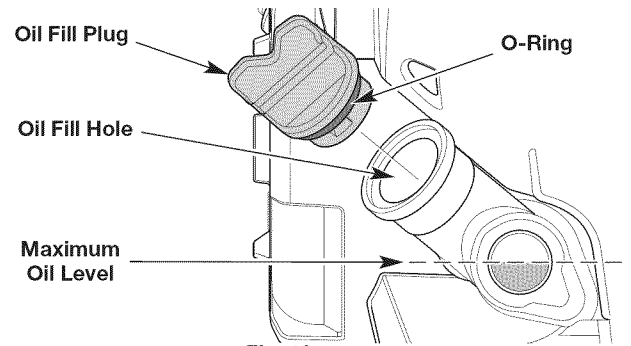

Fig. 19
3. Look into the oil level window; use a flashlight if necessary. **The oil level should fill the window approximately halfway** (Fig. 19). If the oil level is too low, add oil. Refer to *Adding Oil*.
1. Clean the area around the oil fill plug (Fig. 19) to prevent debris from entering the oil fill hole.
3. Add oil to the oil fill hole until the oil level is approximately halfway up the oil level window (Fig. 19).
**NOTE:** Make sure the O-ring is in place on the oil fill plug (Fig. 19).